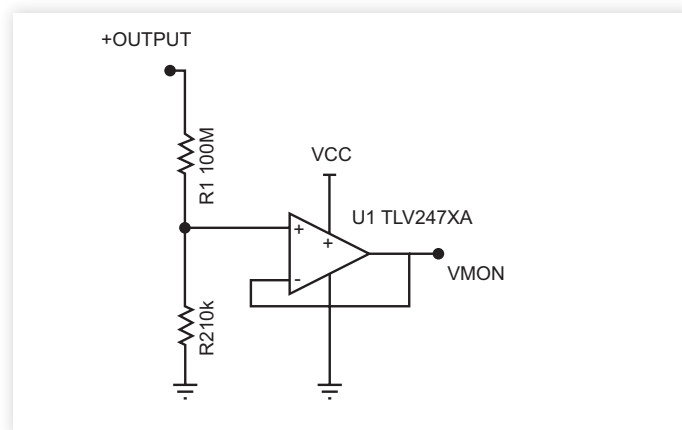

Figure 1. Positive Output Voltage Monitor
Output voltage monitoring is accomplished by dividing the high-voltage (HV) at the output terminal by a large-ratio resistor divider and then buffering the resulting voltage with a voltage-follower. A high value resistance for the divider will minimize current draw from the converter and maximize current available to the load. A sample voltage monitor circuit for positive output models is shown in Figure 1.